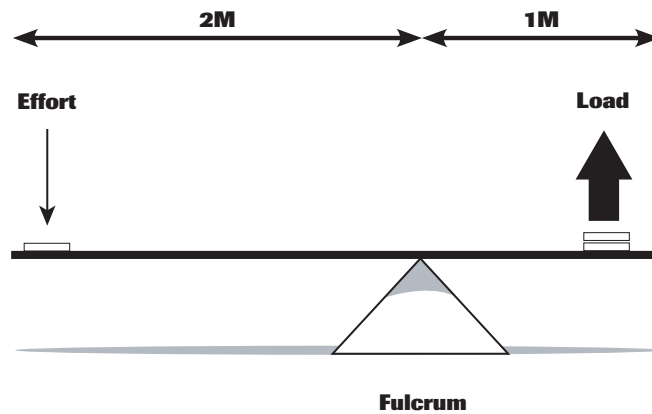

Fig. 2
- ⊗ In the Class 1 Lever shown below (Fig. 2), the applied effort is twice as far from the fulcrum as the resistance (load). Raising the load requires an effort force equal to one-half the weight of the load. Similarly, if the applied effort is three times as far from the fulcrum as the load, raising that load will require a force equal to one-third of the load's weight.